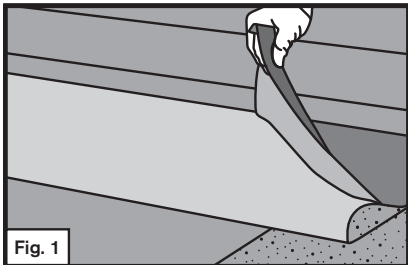

Fig. 1
Step 5. Fold the aligned sheet back half way, exposing the split release liner. See Fig. 1
Step 6. Remove release liner at a 45° angle in a constant motion, while firmly holding the half of the sheet that is in contact with the roof in place as the liner is removed. See Fig. 1